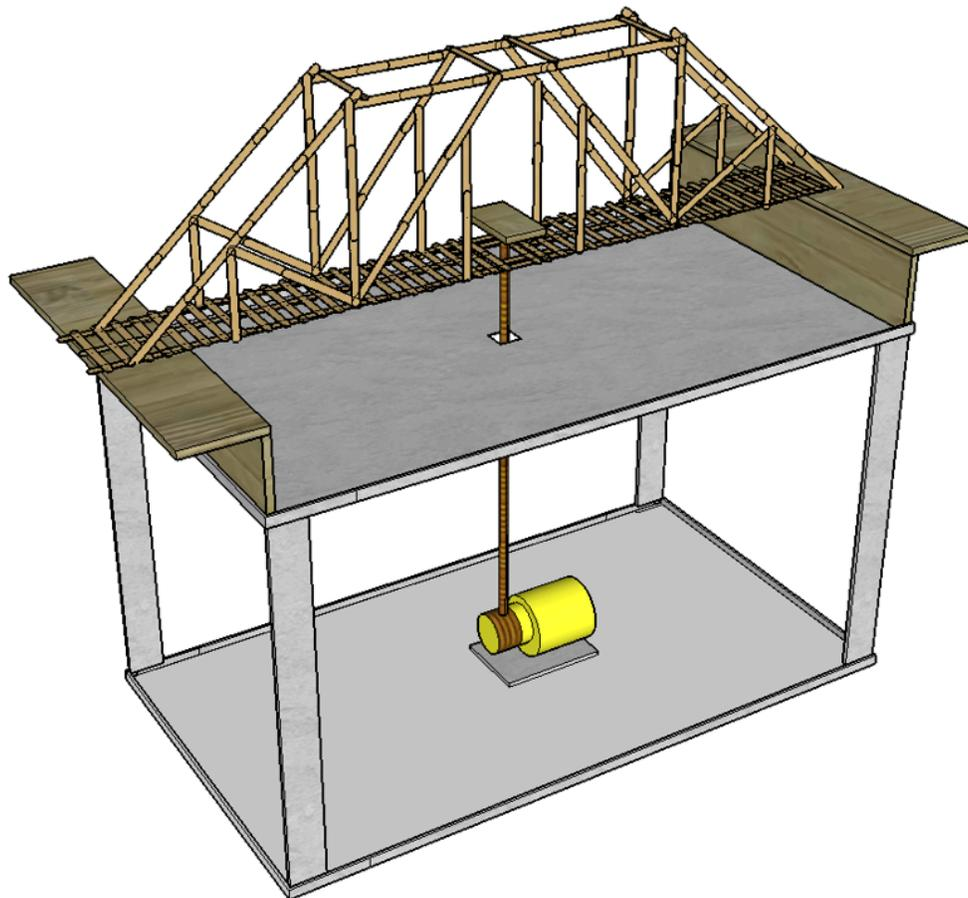

Figure 6 - Loading Configuration
- Downward continuous load will be applied at the 1.5" x 1.5" opening located at the center of the bridge. Do not obstruct the opening, loading apparatus must be placed at this location. Refer to Figures 6 and 7.
- Only the loading machine end supports may be used to support your bridge, no other surfaces. Refer to Figure 6.
- Bridges must accommodate the loading apparatus (3"x3" plate) which needs to be inserted EITHER through the top of the bridge or the side of the bridge to be placed directly over the 1.5"x1.5" opening which will be used to connect to the bottom loading cable and winch**. See Figures 6 and 7.